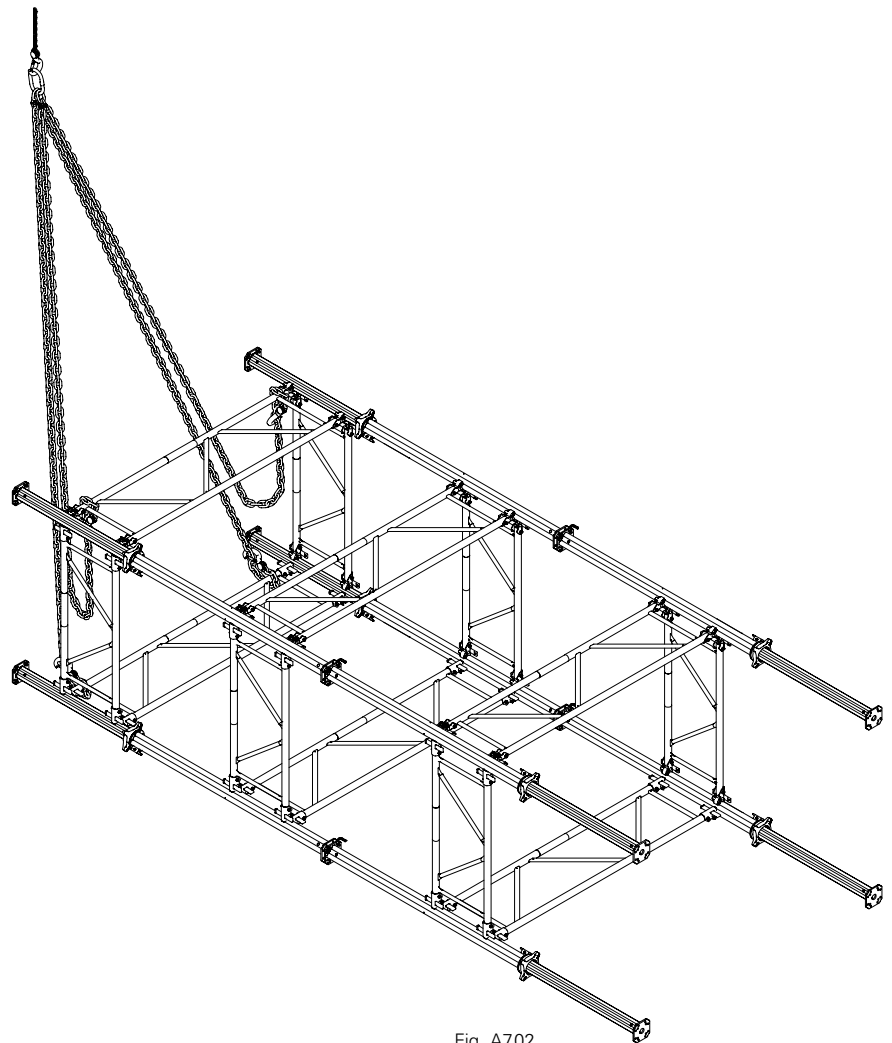

Fig. A7.02
4. Set down MULTIPROP Tower on level ground. (Fig. A7.02)